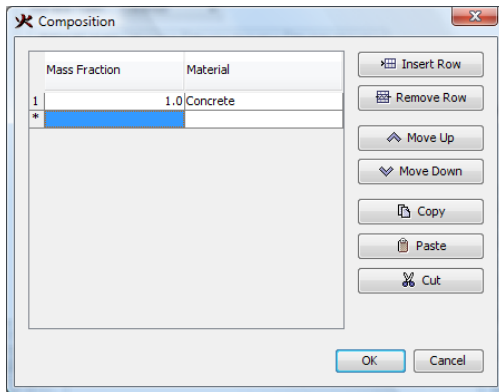

Figure 6.7. Composition of the concrete surface
- The material composition can be defined as a mixture. Click the **Edit** button. In the **Mass Fraction** column, type 1.0. In the **Material** column, select Concrete, Figure 6.7. Click **OK** to close the **Composition** dialog.